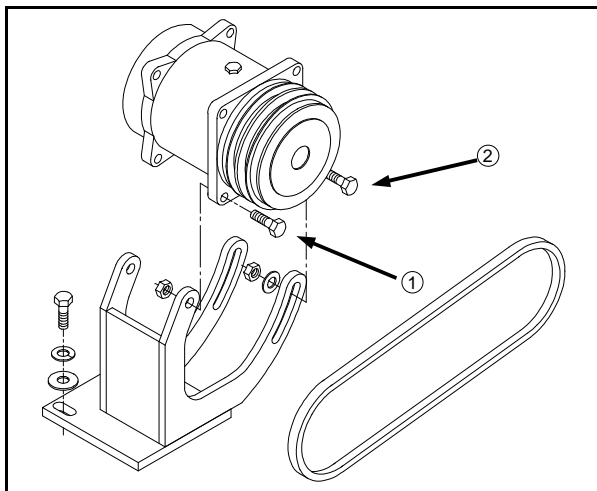

FIG 7.43
To tighten air conditioner compressor belt, loosen the two pivot bolts (fig. 7.43, item 1) and the two slide bolts (fig. 7.43, item 2). Using a suitable prying tool, adjust tension on belt to desired tautness. While maintaining tension, re-tighten all four bolts. Inspect belt every 250 hours.